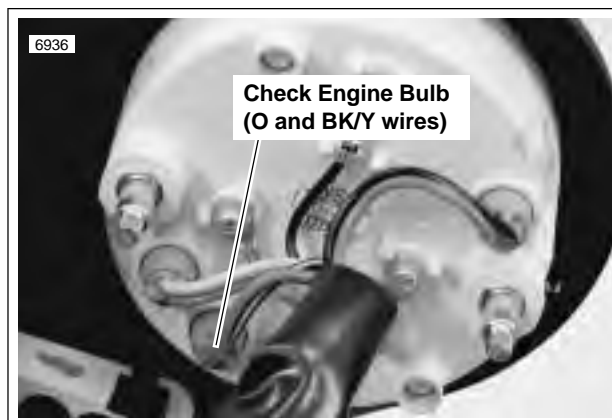

Figure 4-19. Check Engine Lamp Bulb
- b. Remove tachometer cover and pull check engine lamp from back of tachometer. See Figure 4-19. Remove check engine bulb from bulb socket.